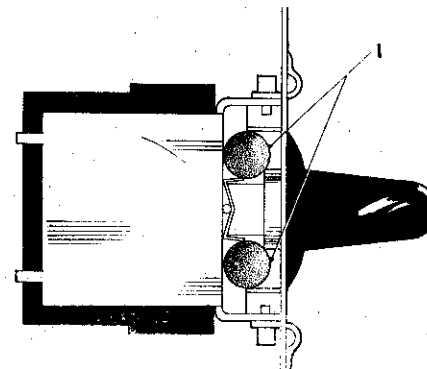

Fig. 1 Electric Window Lift Switch fitted
- 13) Fit two lengths of foam rubber strip to the switch between the black plastic knob and the switch mounting bracket as shown in Figure 1. Secure the rubber strip with a suitable adhesive.